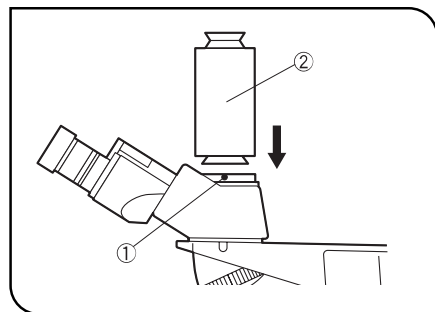

Fig. 18
**5 Photomicrography/TV Observation (Fig. 18)**
1. Using the provided Allen wrench, fully loosen the clamping screw ① on the straight photo tube mount on the trinocular tube.
2. Attach the U-SPT straight photo tube ② or a TV adapter on the mount and tighten the clamping screw ①.